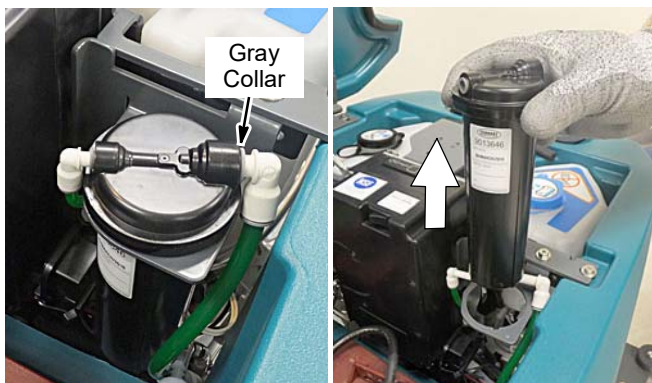

FIG. 94
3. Disconnect the two hose connectors from the top of the cartridge by pressing the gray collars inward and pulling the connectors outward (Figure 94). Lift cartridge to remove.